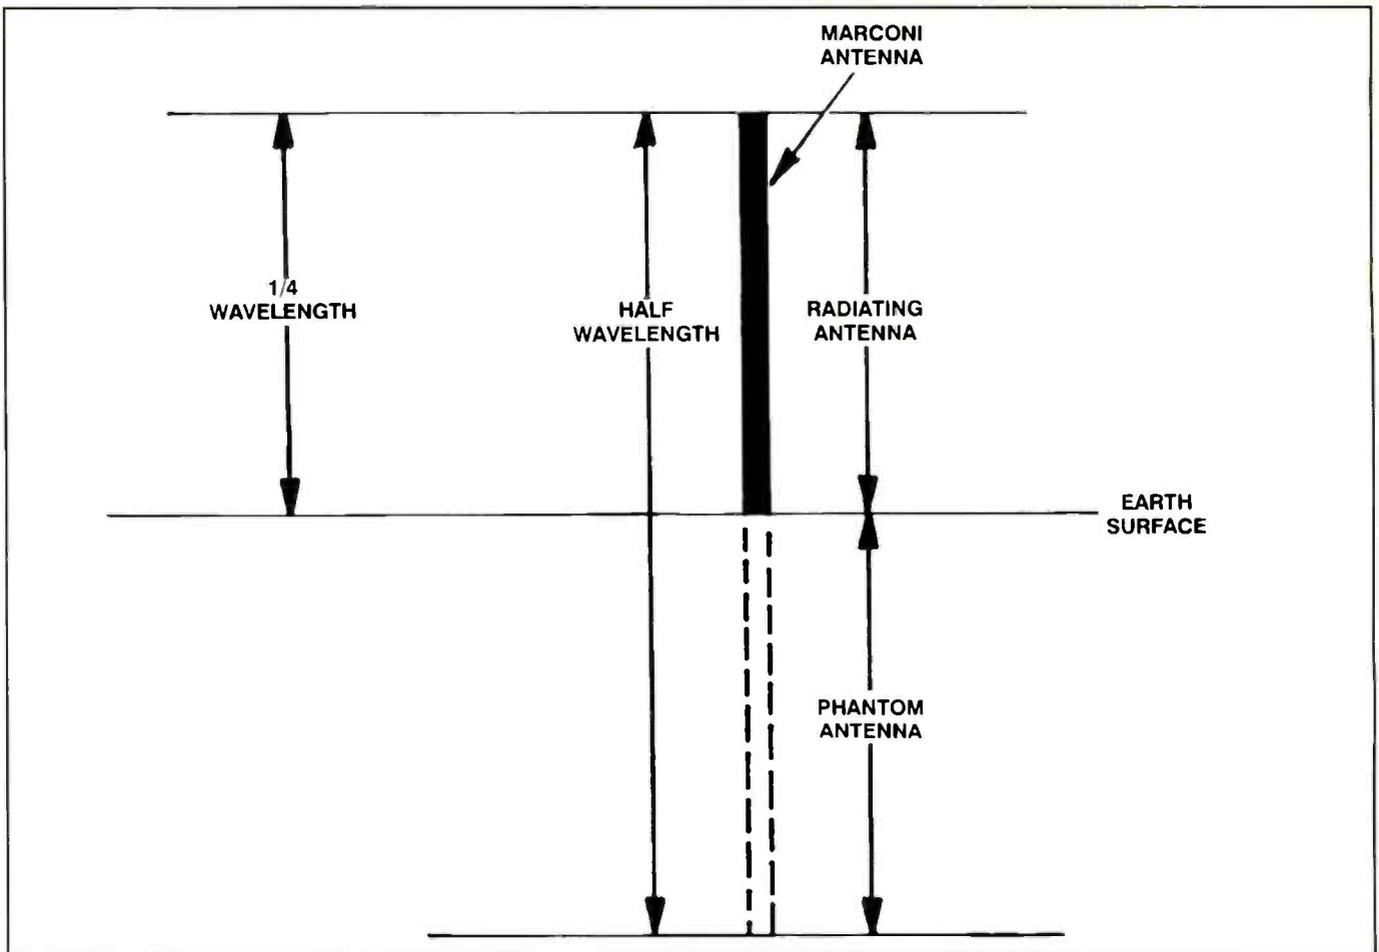

Figure 4. This is a Marconi antenna.
6. *Answer: C.* The above-ground part of the Marconi antenna (Figure 4) radiates a signal. That part plus the quarter-wave phantom antenna below ground is one-half wavelength.